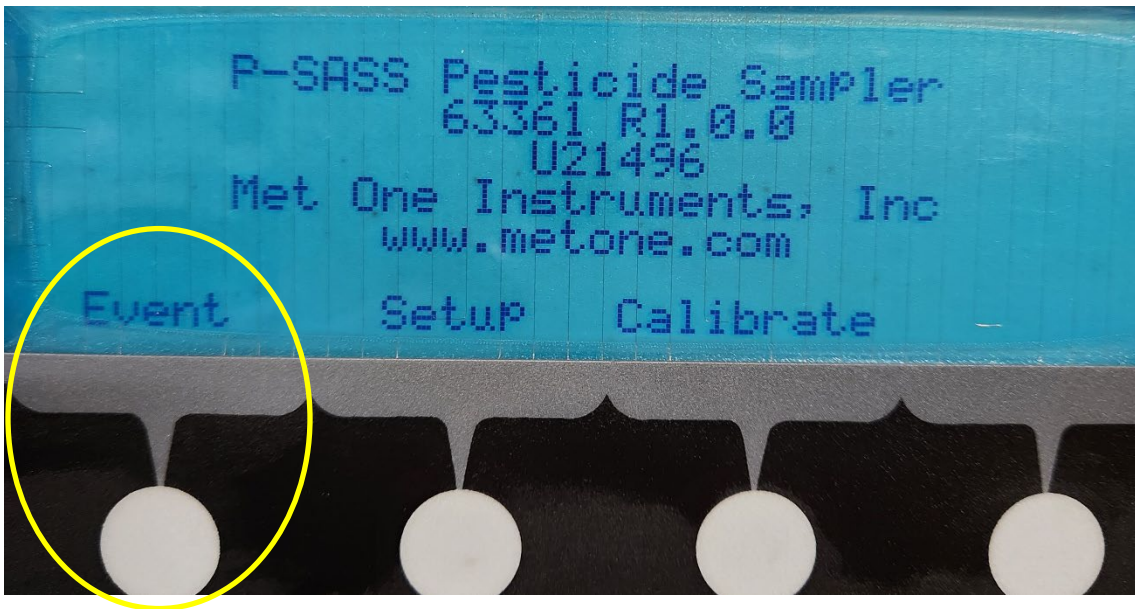

Figure 25: Main Menu
3.5.1 From the main system display, press “Event” (Figure 25).